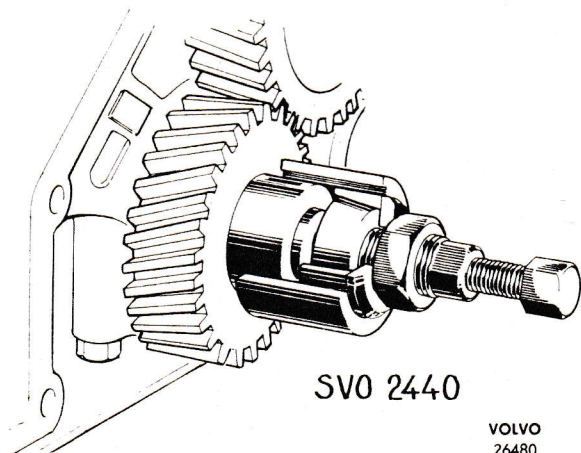

Fig. 23. Removing the hub from the crankshaft
3. Remove the hub from the crankshaft with puller SVO 2440. See Fig. 23. Before applying the tool, its large nut must be screwed backwards so that the cone is